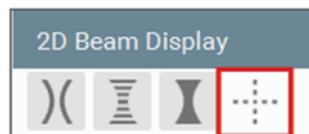

Figure 14: Crosshair Icon in the 2D Beam Display Toolbar
4. Start the BeamWatch software and enable the **Crosshair** located at the top of the **2D Beam Display toolbar** (Figure 14).